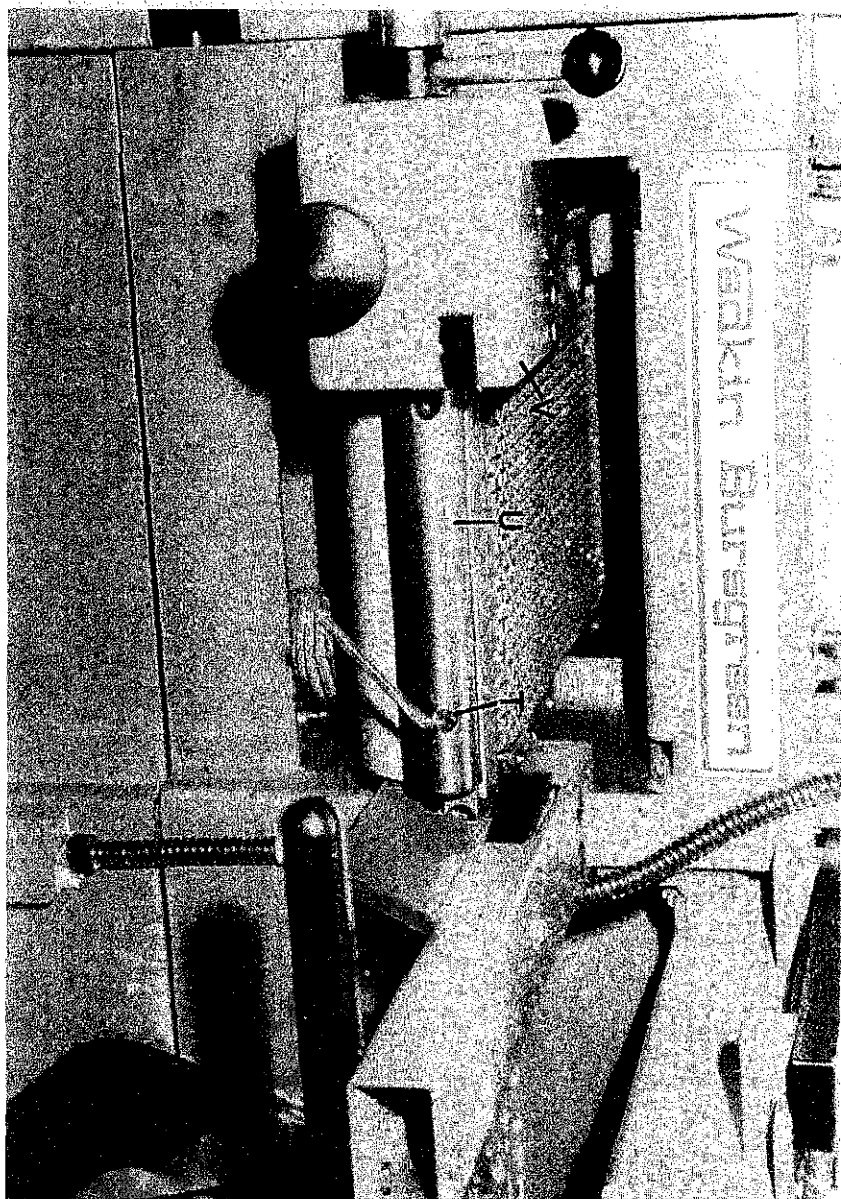

Fig 32
- 2) Remove 3 - M8 cap head screws "T" FIG.32.
- 3) Withdraw front fence side bar "U" FIG.32.
- 4) Lift thickneser "V" fence and remove from machine FIG.32.